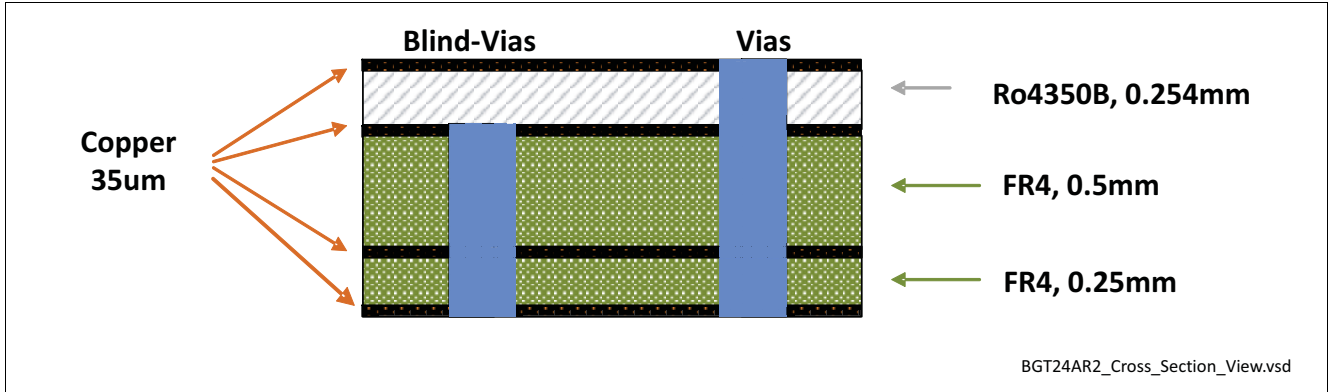

Figure 4 Cross-Section View of Application Board
- 1) Performance based on Application Circuit Figure 2 on Page 13, Cross Section of Application Board, Compensation Structures and Application Board Layout Figure 4 on Page 18ff and Footprint Figure 8 on Page 21